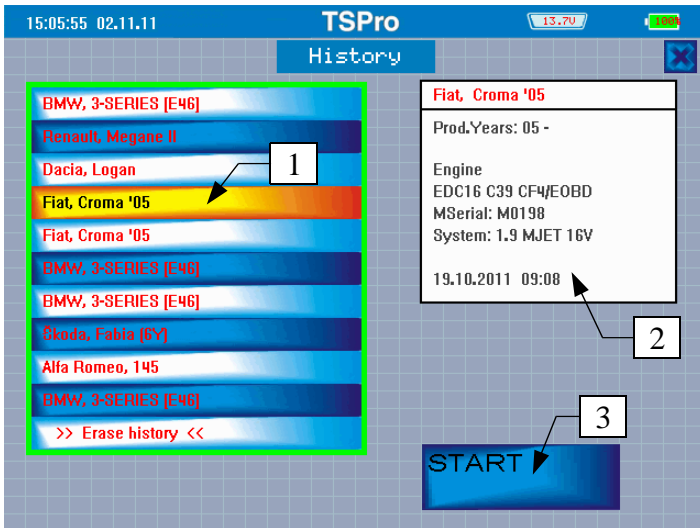

Figure 2.7
A list of recently diagnosed ECUs is displayed in this application. An example screenshot is shown in Figure 2.7. Using this list you can directly connect to the given ECU without going through the Vehicle selection menu first. A new window appears on the right hand side of the screen (2) with basic information about the ECU (vehicle manufacturer, ECU type, date and time of last connection) once an ECU is selected in the list (1). The connection can be established by pressing the Start button (3).